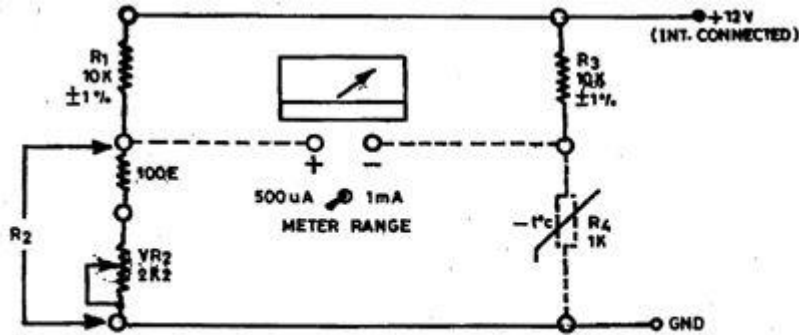

FIG. 6. INTERCONNECTIONS FOR CARRYING OUT THE EXPERIMENTS. PATCH CORDS TO BE USED FOR CONNECTING METER AS SHOWN BY DOTTED LINES.
- 1.1 Please refer to Fig. 6 for connection. Select the meter range of 1mA with the toggle switch.
- 1.2 Connect the thermistor probe plugs to the sockets of the arm R_4 of the bridge configuration as shown in Fig.6.